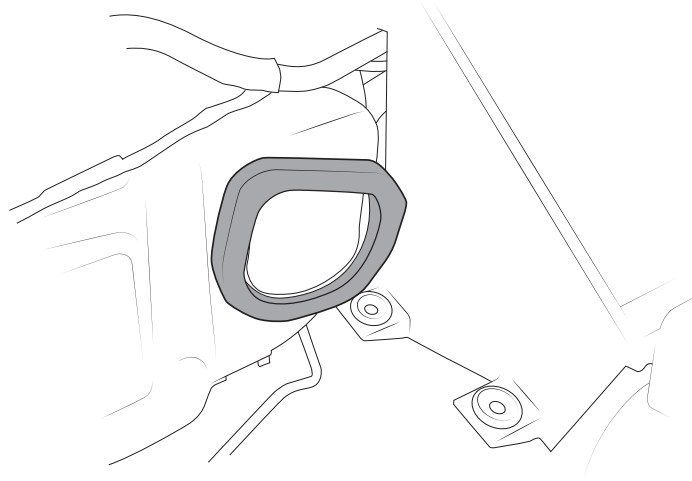

Figure 21
8. Clean the surface and install the AEV supplied seal onto the inner fender (Fig 21).